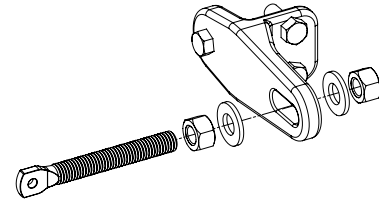

Figure 10. Attach Tension Bolt
7. Attach a tension bolt to each gate bracket (Figure 10).